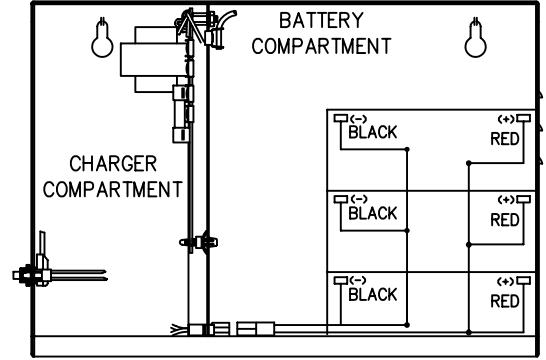

FIG. 3
7. Install batteries and interconnect using wire harness provided as shown in figures 3, 4 or 5.